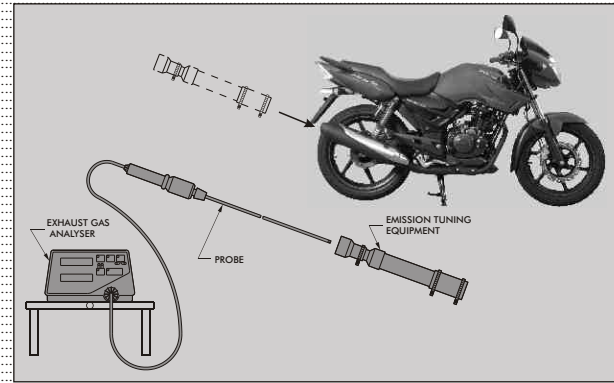

Fig. 2-21
- Check and set CO level at engine idling speed. (Fig. 2.21) (Refer chapter 4 - Fuel, lubrication and exhaust system for carburettor cleaning procedure.)